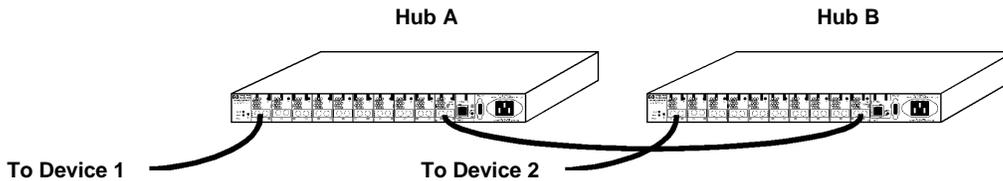

Figure 29. Cascaded HP FC-AL long-wave hub (HP A48394A) configuration
- If connecting long-wave hubs, refer to figure 29.